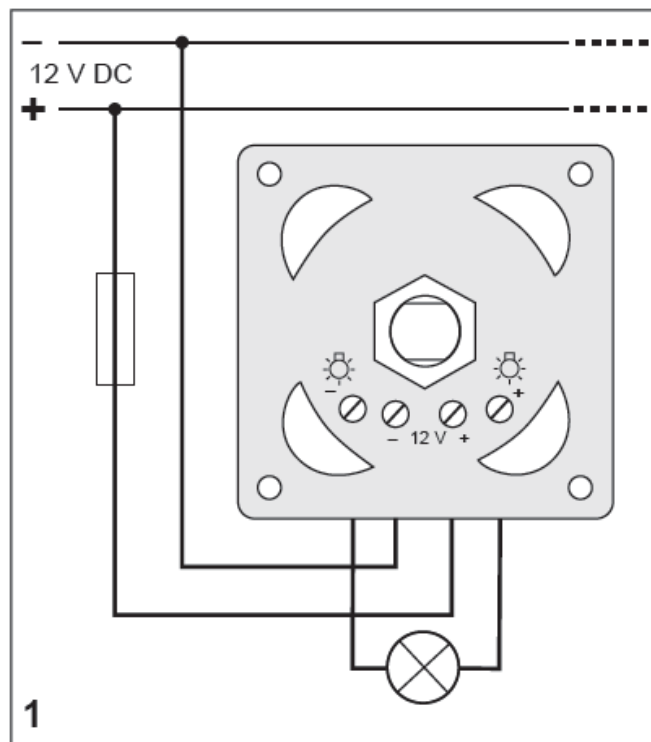

Figure 1
- Connect the rotary dimmer (Figure 1).